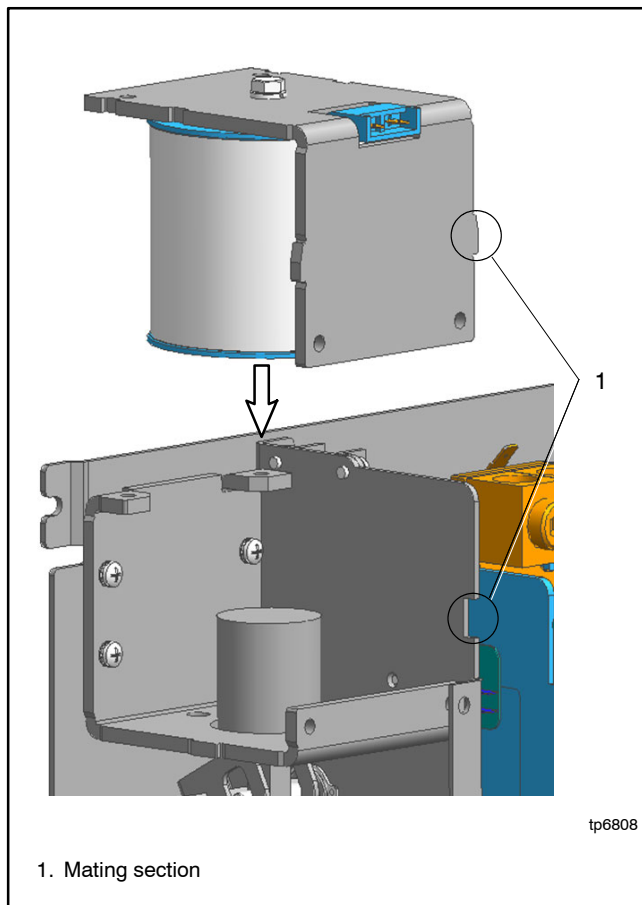

Figure 7-74 Install Coil Assembly
3. Place the coil assembly made in step 2 into the body. Be sure that the coil assembly fits perfectly into the body at the mating section. See Figure 7-74.